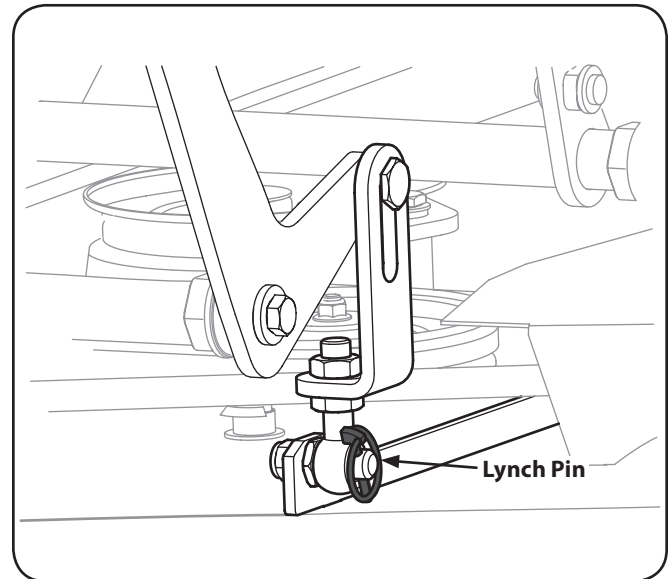

Figure 7-3
5. Remove the four lynch pins that secure the deck to the deck lift assembly. See Figure 7-3.